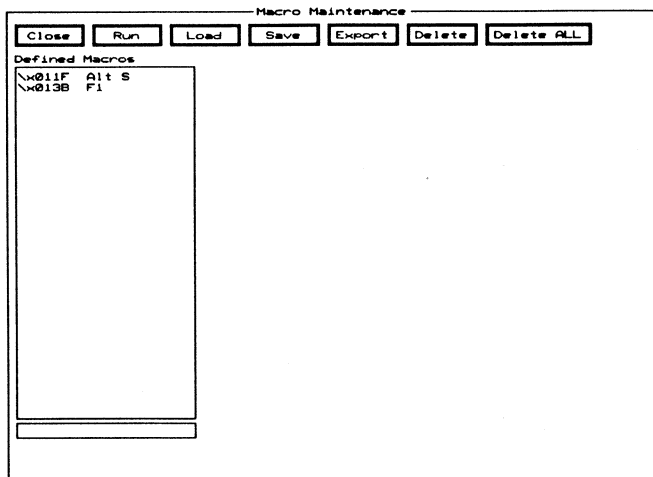

Figure 4-18. The *Macro Maintenance* dialog box.
2. Select **Macro Maintenance**. The **Macro Maintenance** dialog box displays (figure 4-18). The two macros you created display in the **Defined Macros** list box. These macros are now stored only in memory.